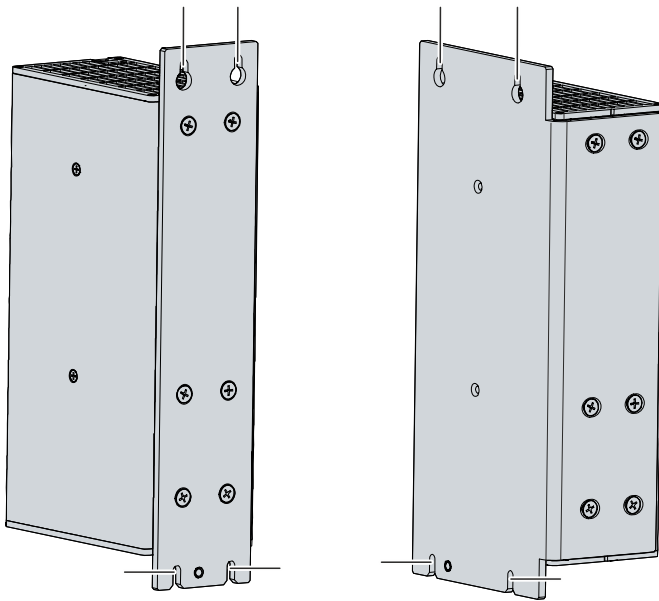

Fig. 19: Dismantling the control cabinet
You now have access to the battery (1) and storage media (2) (see fig. 19).